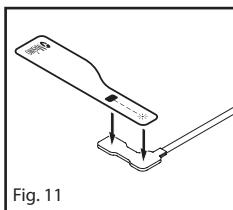

Fig. 11
3. Position the replacement tape over the sensor, aligning the emitter component with the sensor cable. Refer to **Fig. 11.**